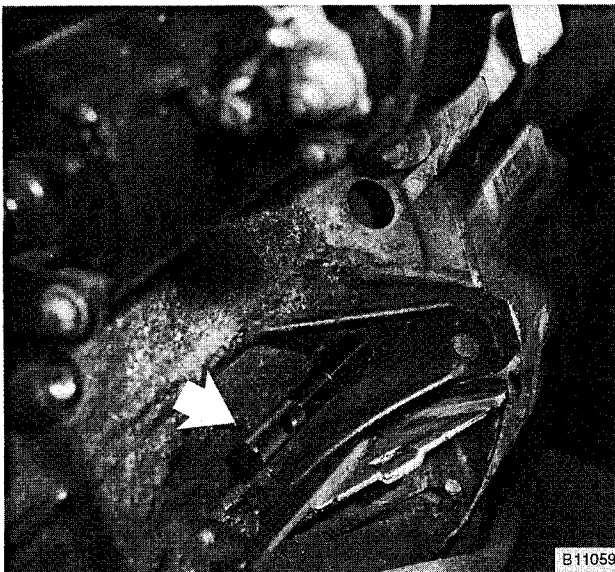
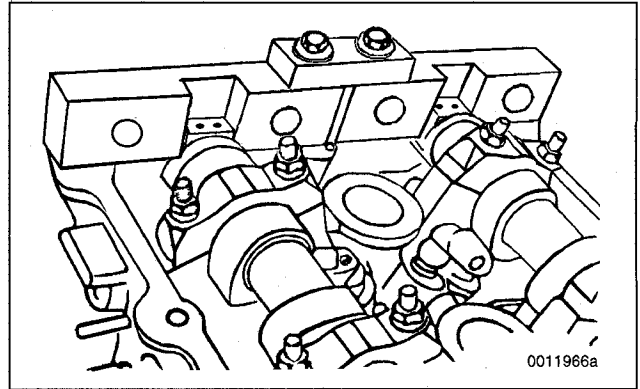

Fig. 5. BMW special tool no. 11 2 300 installed through bellhousing and into flywheel to lock crankshaft at TDC (arrow).
Fig. 6. BMW special tool no. 11 3 240 installed on rear of camshafts to position camshafts at TDC. (M44 camshafts shown. Other engines are similar.)
11. Using loosened bolt at vibration damper, turn crankshaft to TDC and lock in position by inserting BMW special tool no. 11 2 300 through transmission bellhousing. See Fig. 5.
12. Lock camshafts at TDC by mounting BMW special tool no. 11 3 240 over square ends of camshafts. See Fig. 6.
The procedure outlined below assumes that the camshafts and the crankshaft are locked in the TDC installation position with special tools (shown earlier in Fig. 5 and Fig. 6).